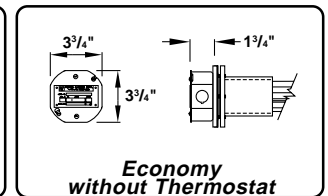

Fig. 3.6
- **Economy** enclosures (Fig 3.6)